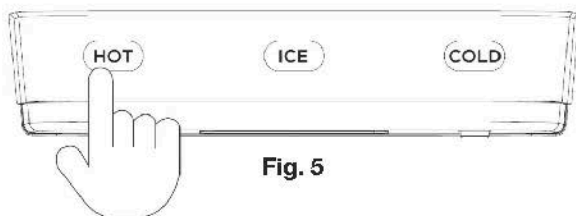

Fig. 5
2. Place a drinking glass or container under the hot water spout. Press Hot Water button to dispense hot water. (see **Fig. 5**)